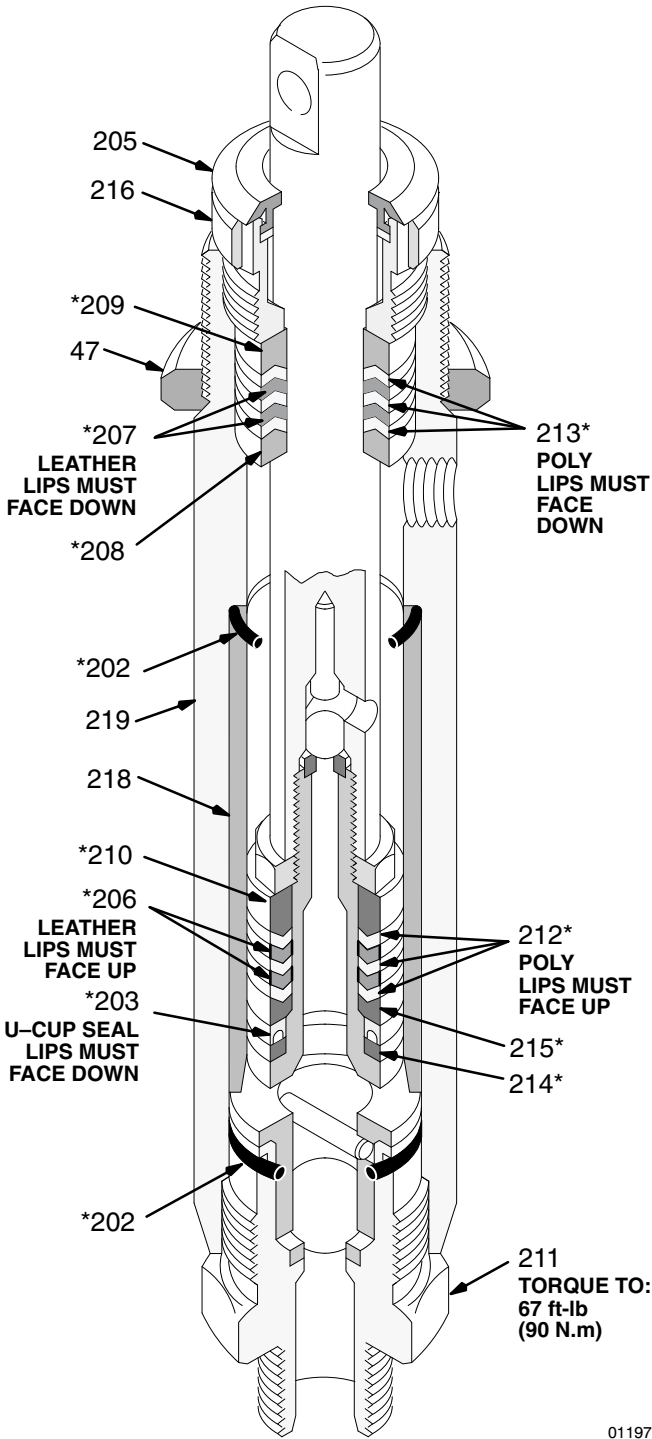
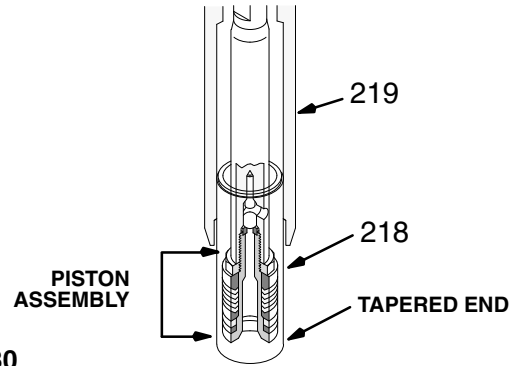

Fig. 29
Fig. 30
8. Stack the male gland (208*), alternate packings (213*,207*), and female gland (9) into the top of the cylinder (219). See Fig. 29.
9. Install the packing nut (216) and plug (205), but leave loose for now. See Fig. 29.
NOTE: The tapered end of the sleeve is the bottom of it. See Fig. 30.
- Place a new o-ring (202*) firmly in the cylinder groove. See Fig. 29
- Slide the sleeve/piston rod assembly **INTO THE BOTTOM OF THE CYLINDER**. This is to prevent packing damage during reassembly. See Fig. 30.
- Screw down the cylinder locknut (47) until it is finger tight at the bottom of the external cylinder threads.
- Place the flats of the intake valve (223) in a vise. Install a new o-ring (202*). Screw the pump cylinder into the valve. Torque to 67 ft-lb (90 N.m). See Fig. 29.